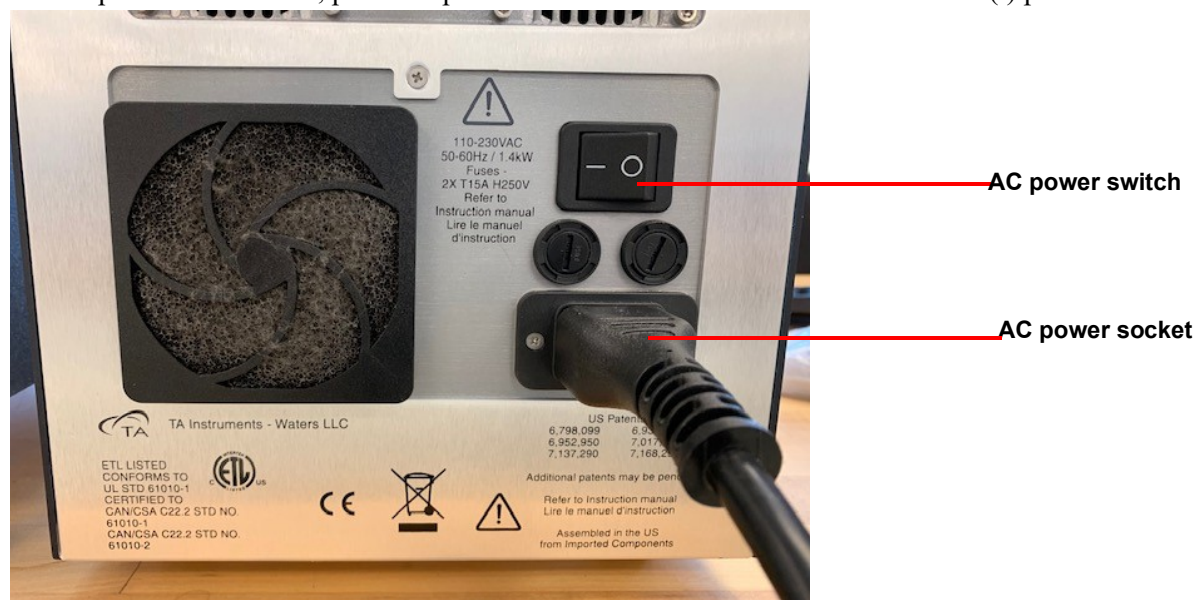

Figure 18 Lower back panel of electronics box.
- 1 Plug the AC power cord into the AC power socket on the lower back panel of the electronics box. Refer to Figure 18.
- 2 To power on the ECU, press the power switch on the electronics box to the On (I) position.
- 4 Power on the system by pressing the power switch on the electronics box to the On (**I**) position. Refer to Figure 18 for power switch location.
- 1 Turn off the power to the system by pressing the Standby button on the Test Station and then pressing the power switch on the electronics box to the Off (**0**) position. Refer to Figure 18 for power switch location.